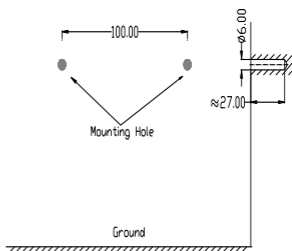

Figure 5
2. Drill two holes at the center marks about 6mm in diameter and 25mm in depth. This is approximately the same size as the wall anchors (see Figure 5).